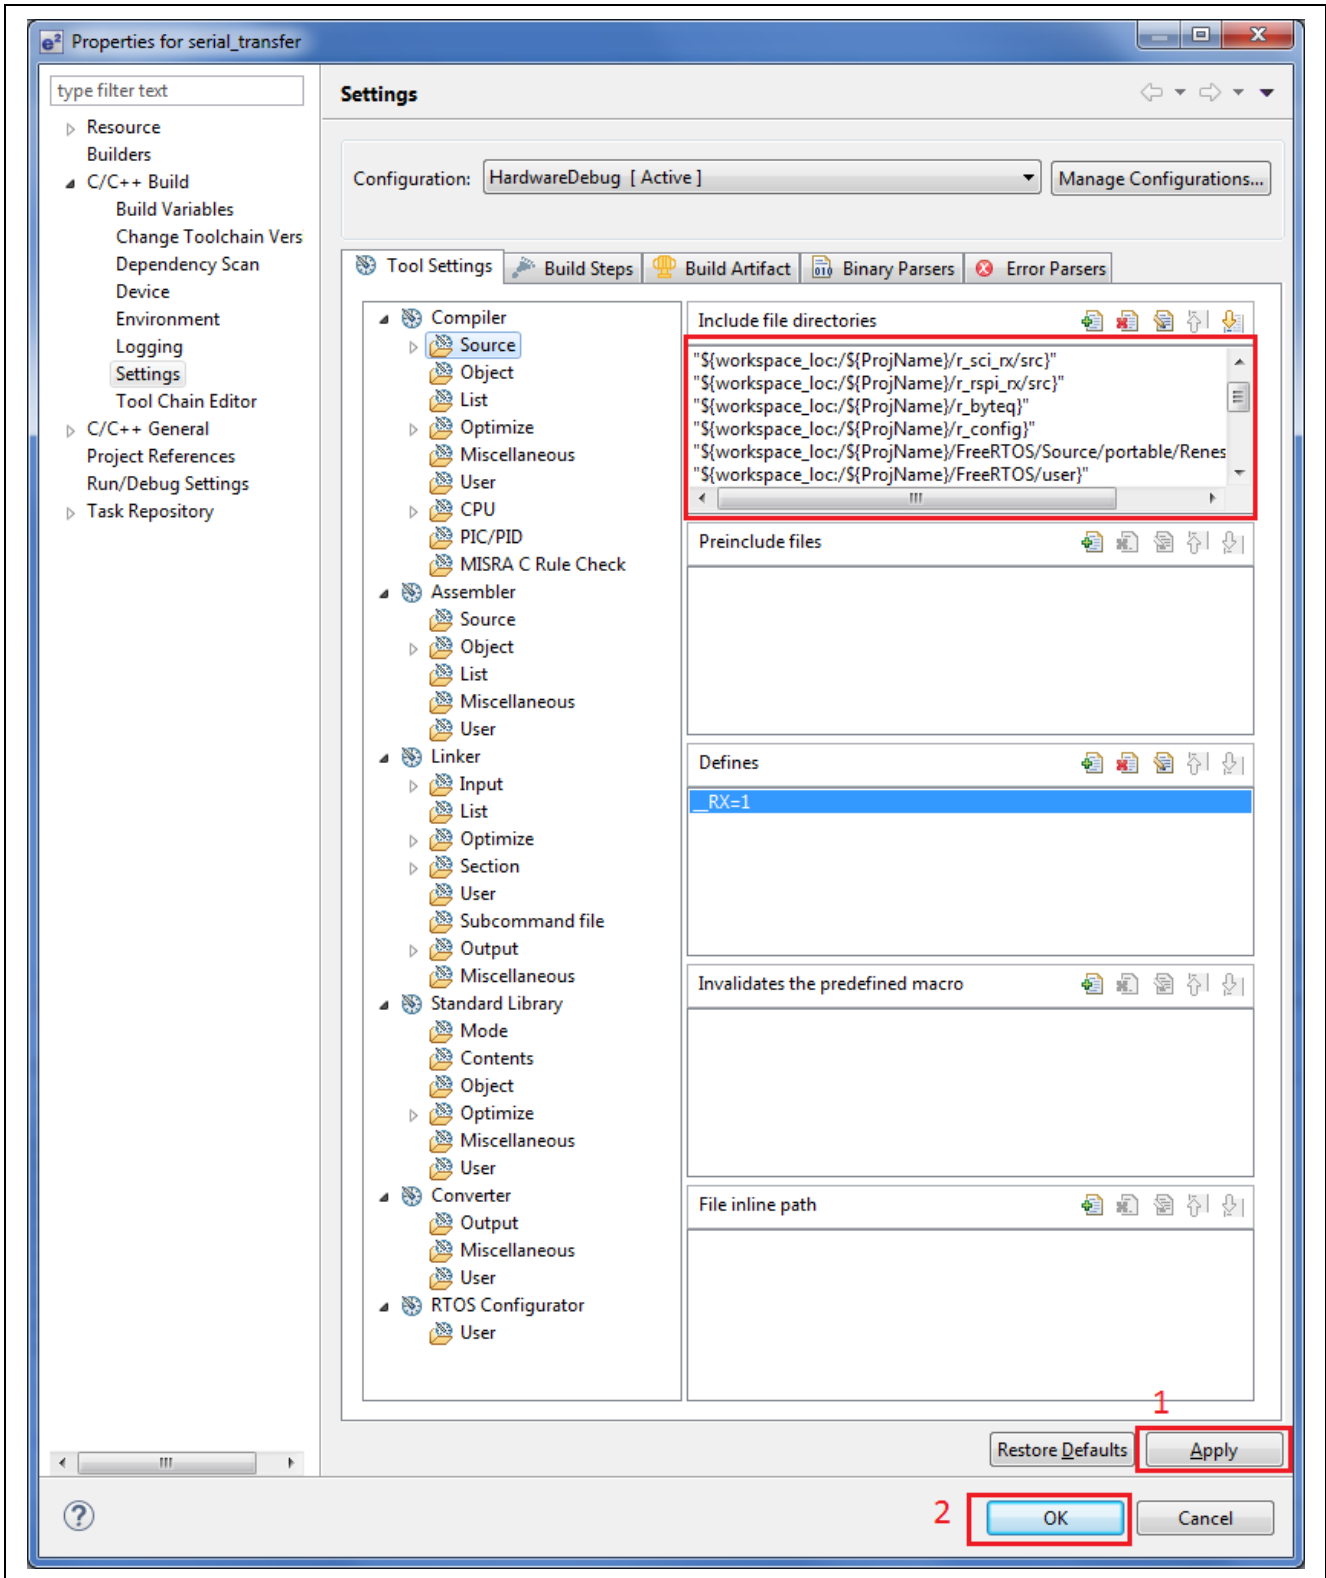

Figure 3-15 Finish including paths
4. After all necessary folders are included; the result is same with Figure 3-15. Click [Apply] button to make all changes take effect. Then, click [OK].